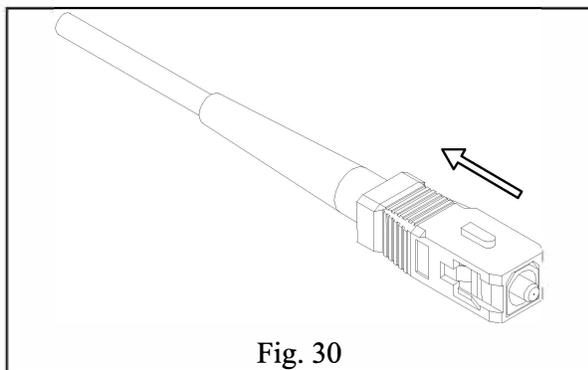

Fig. 30
Step 17 Pull the coupling device over the front outer shell and make sure snaps in place. See Fig. 30.